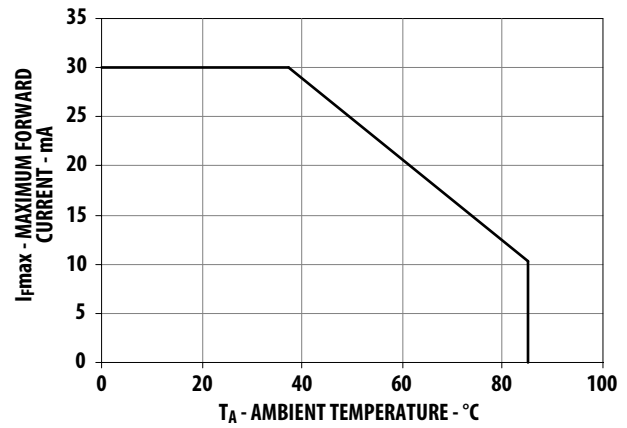

Figure 9. Maximum Forward Current vs Ambient Temperature
1. Derate linearly as shown in Figure 4 and Figure 9.